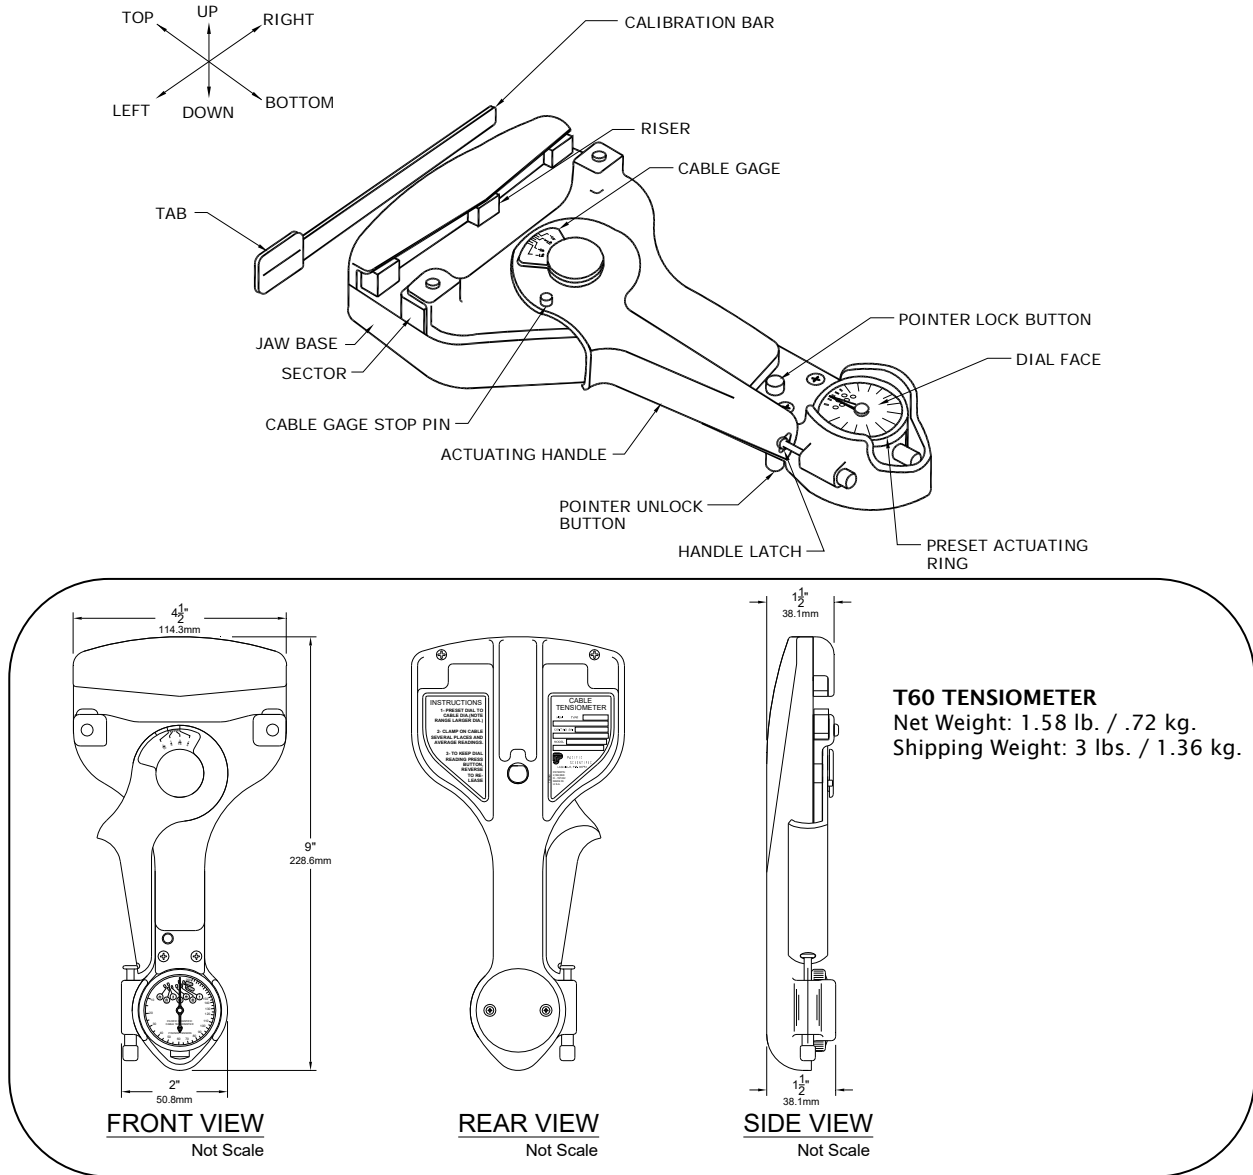

Figure 1- Cable Tensiometer, Typical
- 1-3. DESCRIPTION** - Used extensively, it is considered the standard of the industry in many countries, and has proven it's durably under long and continual service. Each instrument is suitable for use over a wide range of tension measurements and different cable sizes. Firm positive 3-point cable grip prevents dislodgement when instrument hanging free on control cable. The T60 requires no alternate riser for the various size cables. There are no losable parts in the T60. The instrument is always ready for instant use. An easy to operate, accurate, built-in gage eliminates guess work as to size of cable to be tested. Simple, comfortable lever grip permits one hand operation without operator fatigue. In severe cold, service mittens or gloves may be worn without any loss efficiency of operation. A simple lock holds dial pointer at exact reading on cables in areas where instrument cannot be seen. A touch unlocks the pointer preparatory for the next reading. Large, clear numerals make readings easy and accurate. Bezel is easily turned to the correct zero setting for the proper cable size, determined by the gage in the handle head. The T60 is a durable precision instrument and is not damaged by use on cable tensions beyond its range. The cable Tensiometer is a hand-held instrument. A jaw is located at the top of instrument. Actual contact on the cable is made by the riser block and the two sectors located in the jaw. A sliding yoke slides up the frame of the instrument to provide a measuring force. A dial indicator is located at the bottom of the instrument to give the actual tension indication. An actuating handle is pivoted at the center of the instrument and is motivated by a trigger spring within the body of the Tensiometer. A pointer lock button is situated just above the dial indicator and a handle latch is located on the left side of the frame to engage the detent notch of the actuating handle. (See figure 1)
- 1-4. WARRANTY** - The T60 cable Tensiometer has a warranty to the original customer for a period of (1) one year on *new* units and (6) six months for *repaired* units from the invoice date. This warranty is to ensure the cable Tensiometer is free of defects in materials and workmanship under correct and normal use. The warranty can be void if the unit has been tampered, altered, dropped or damaged by an accident. ***The shipping costs to and from OPTI Mfg Corp, are not included in the warranty coverage.***